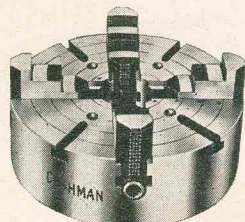

FIG. 64
(1st) The 4-jaw Independent Lathe Chuck which because its four holding jaws can be operated independently of each other, can be adjusted to hold round, square, eccentric or odd shaped work. (Fig. 64) (2nd) The 3-jaw Universal Geared
1. **To place work in chuck:** Adjust chuck jaws to approximate opening to receive the work roughly centering them by matching nearest concentric ring on chuck face with corresponding mark on jaws. (Fig. 64)